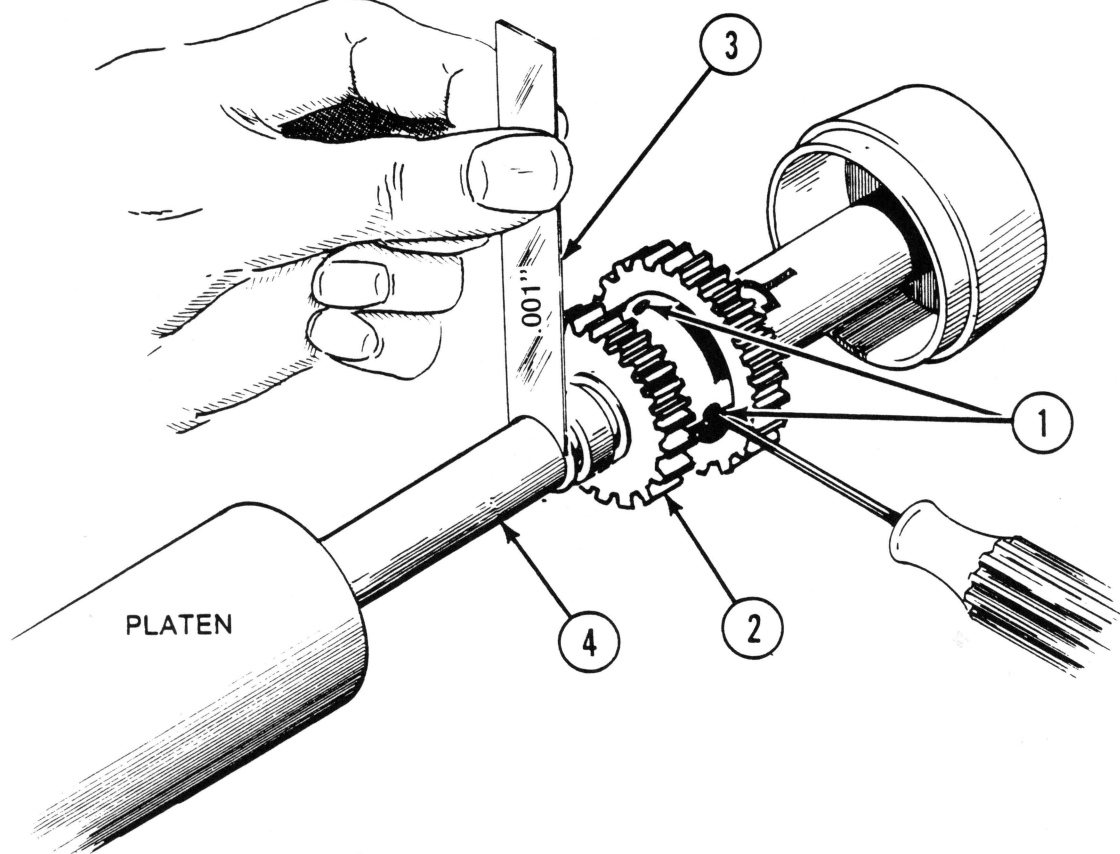

FIGURE 1
The platen locator sleeve is on the right side of the platen, near the tractor gear (see Figure 1). There should always be a small amount of end play for the platen locator sleeve to prevent binding. If there is too little play, the platen will not turn, or line feeding will be irregular. If there is too much play, the horizontal registration of the print will shift from line to line, so that it won't "line up" vertically. To check the end play, use a feeler gauge; 0.001 inches to 0.003 inches tolerance is acceptable. If the sleeve is misadjusted, follow the steps below to adjust it.
4. Use a 0.072-inch six-flute spline wrench to loosen the two collar set screws between the platen gears (see Figure 1, #1).
5. Insert 0.001 inch feeler gauge (see Figure 1, #3).
8. Remove feeler gauge and twirl platen sleeve (see Figure 1, #4). If sleeve binds, loosen collar set screws and repeat adjustment, but snug gear less tightly to gauge.